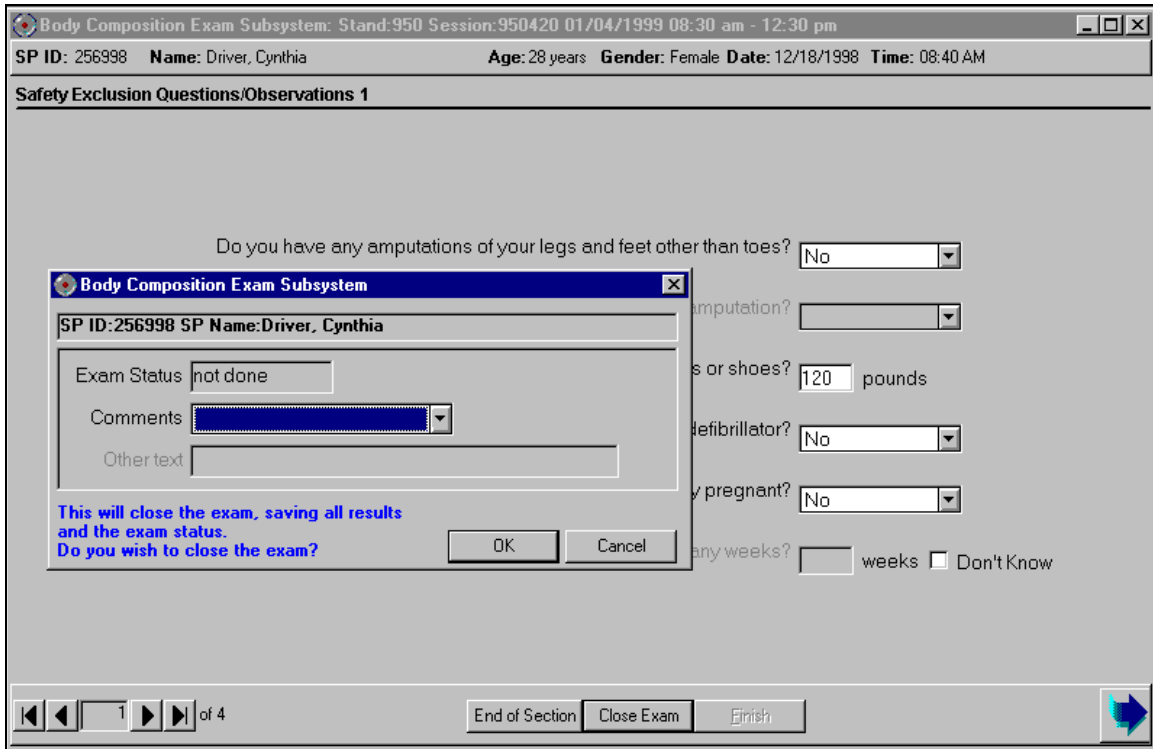

Figure 4-40. Close exam
- Complete DXA scan as usual. Press 'End of Section' after the DXA component status to bypass the BIA exam. The box seen in Figure 4-40 will be displayed with the Component status selected. The status will be set to 'Not Done' or 'Partial' depending on the stage at which the test ended.